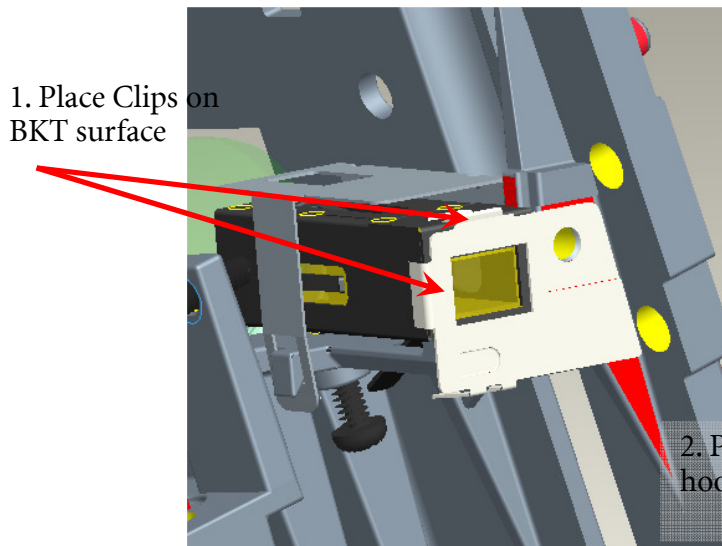
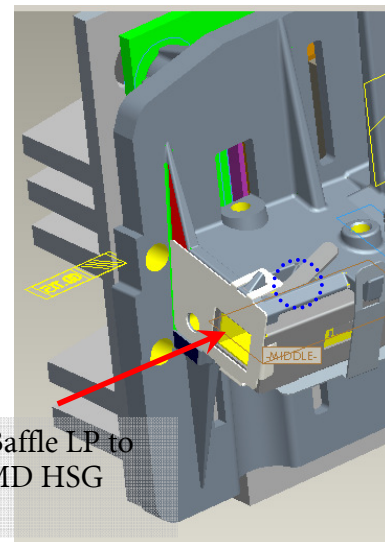

Fig. 1-5
Fig. 1-6
- iv. Assembly “Baffle LP” first (Fig. 1-5) & push “Baffle LP” to hook DMD HSG(Fig. 1-6),